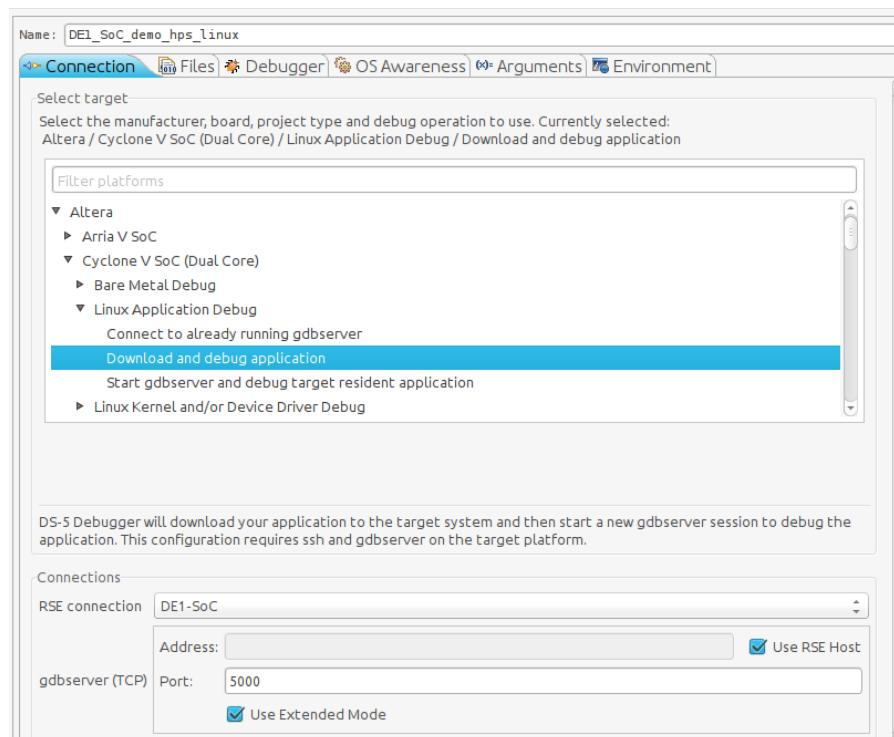

Figure 13-19. Debug Configuration "Connection" Tab
- b. Set the “RSE connection” to “DE0-Nano-SoC”. This is the remote system connection we created earlier. You should have something similar to Figure 13-19.